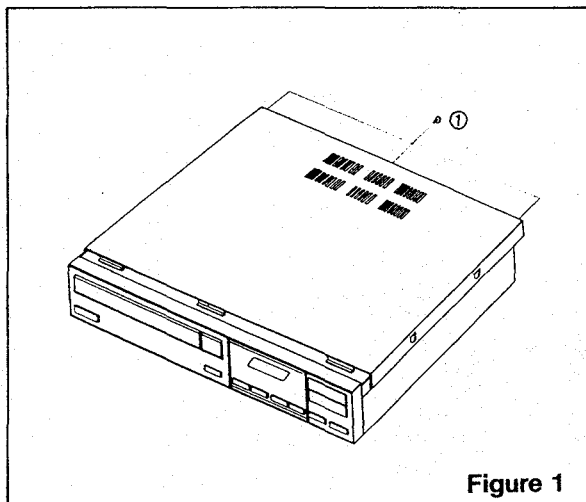

Figure 1
1. To Remove the upper cover (Figure 1),